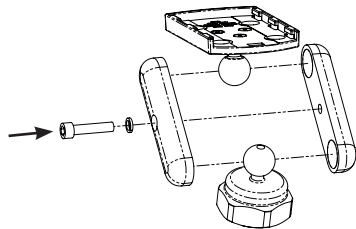

Figure 2
4. Using the *5/32" Hex Key*, loosely reassemble the Mount as shown in **Figure 2**.